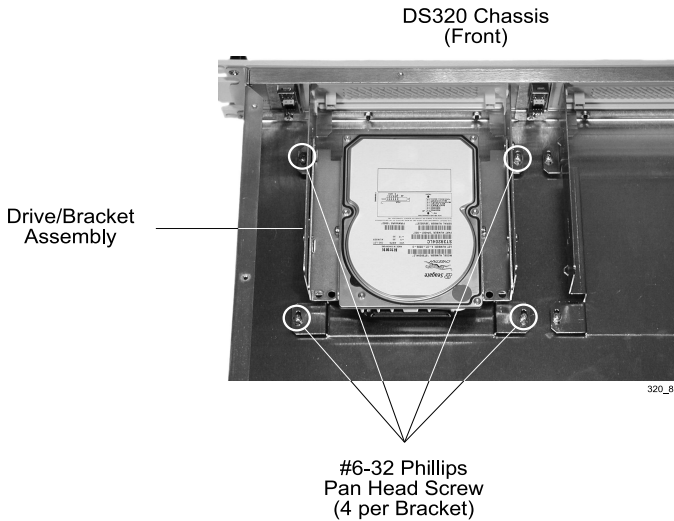

Figure 9: Installing the Drive/Bracket Assembly into the Chassis
4. Secure the drive/bracket assembly to the chassis with four (4) screws (Figure 9).